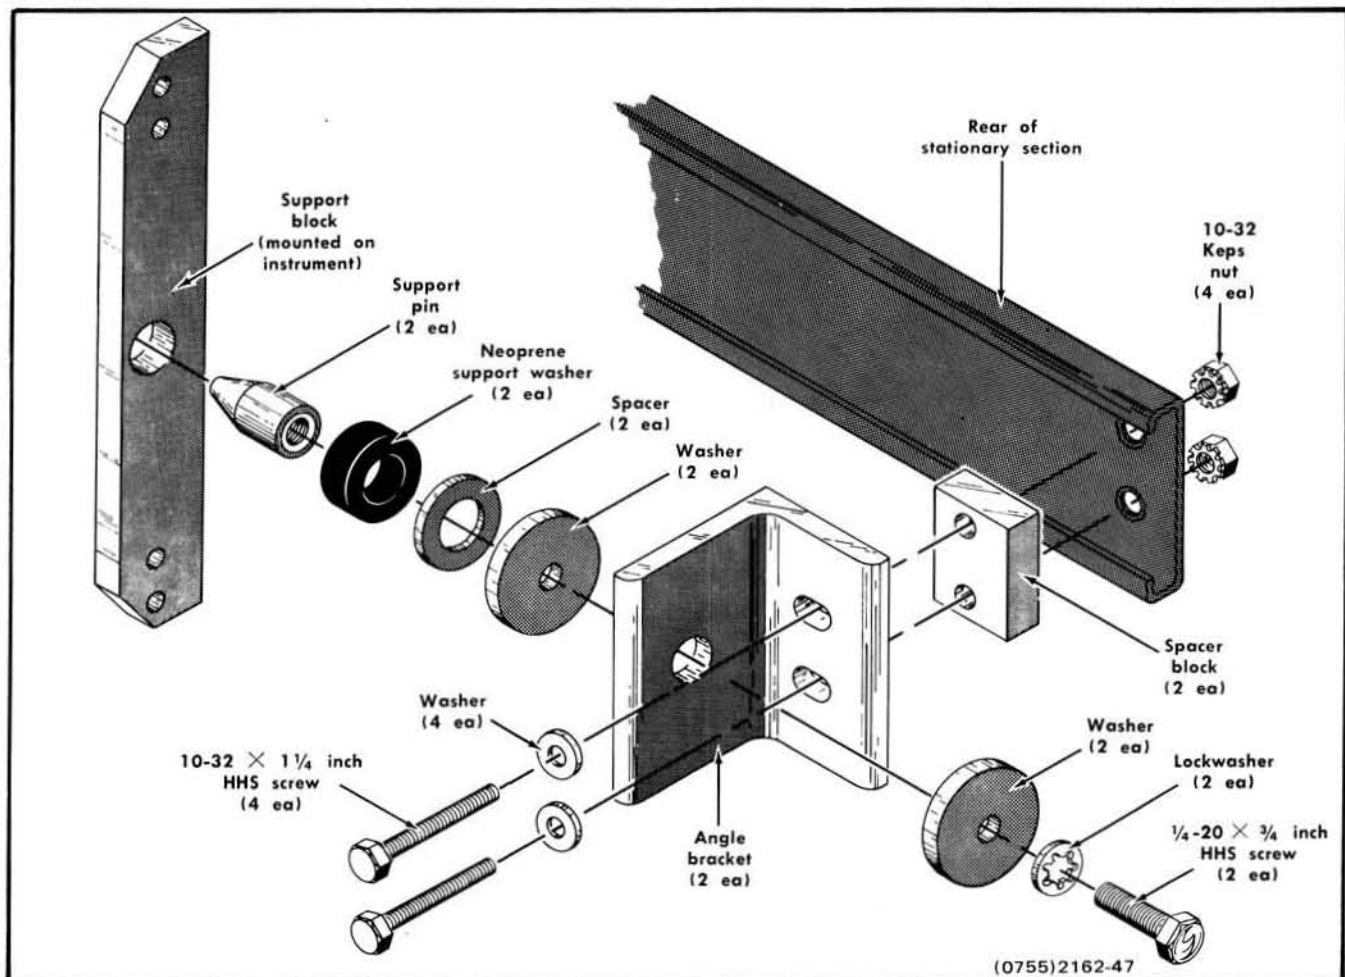

Figure 2-12. Rear support kit.
The following mounting procedure uses the rear support kit (see Figures 2-12 and 2-13) to meet the environmental characteristics of the instrument (shock and vibration). Two alternative mounting methods are described at the end of this procedure. However, when mounted according to these alternative methods, the instrument may not meet the given environmental characteristics for shock and vibration.
instrument may not slide all the way into the rack. Do not tighten the mounting screws. Figure 2-12 shows the parts in the rear support kit and the order in which they are assembled.
4. Assemble the support pin to the angle bracket in the order shown in Figure 2-12. Leave the spacer (washer) off, but install the neoprene washer.